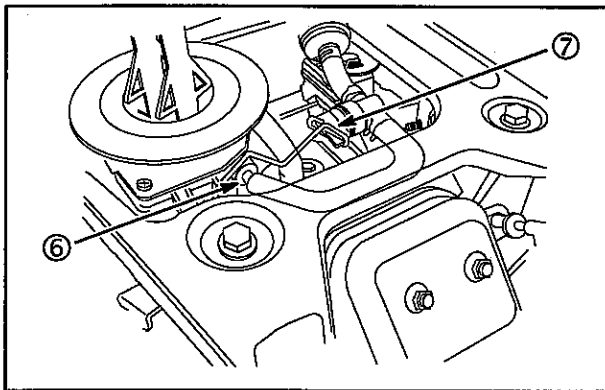

Fig. 10
- Lift the fuel tank. Disconnect the fuel hose from the carburetor fuel inlet (6), **Fig. 10**. Remove the fuel valve shut-off knob from the shut-off link (7).